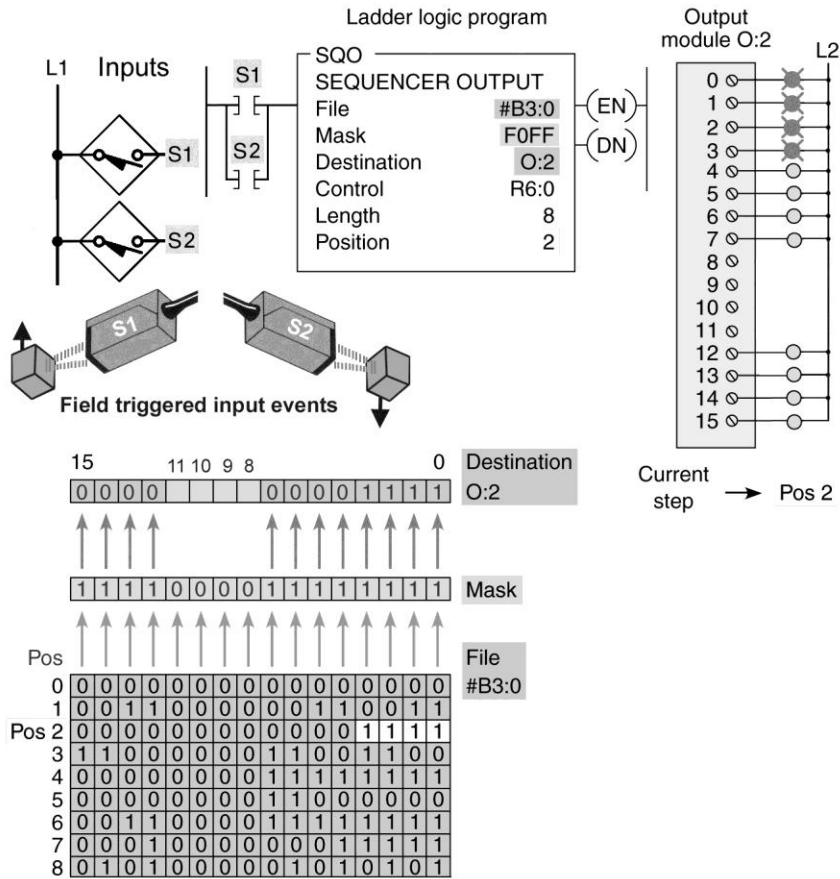

Figure 12-24 Event-driven sequencer program for assignment 7.
7) The event-driven sequencer program of Figure 12-24 is described in the text. Prepare an I/O connection diagram and ladder logic program that will simulate its operation. Use addresses that apply to your PLC installation. Enter the program into the PLC, and verify its operation.